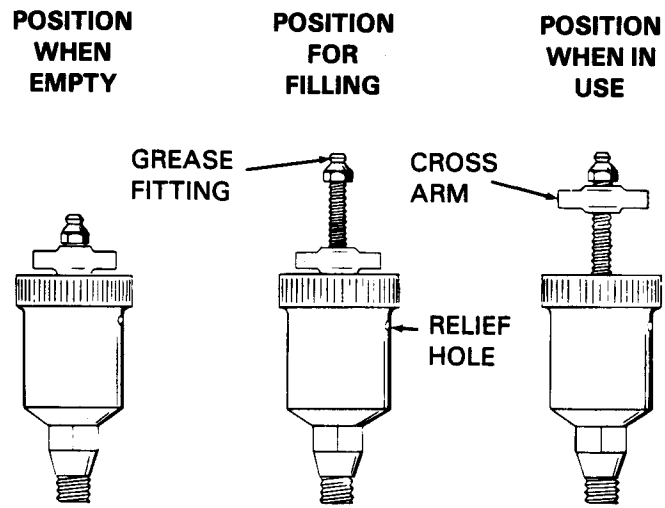

Figure 4. Automatic Lubricating Grease Cup
To prevent the grease in the seal grease cup (12) from escaping, turn the crossarm on the cup clockwise until it rests against the cover (see figure 4).
See figure 4. Before starting the pump, fill the seal grease cup through the grease fitting with a good grade of No. 2 lithium-base grease until grease escapes from the relief hole. Turn the grease cup arm counterclockwise until it is at the top of the stem; this will release the spring to apply grease to the seal assembly.